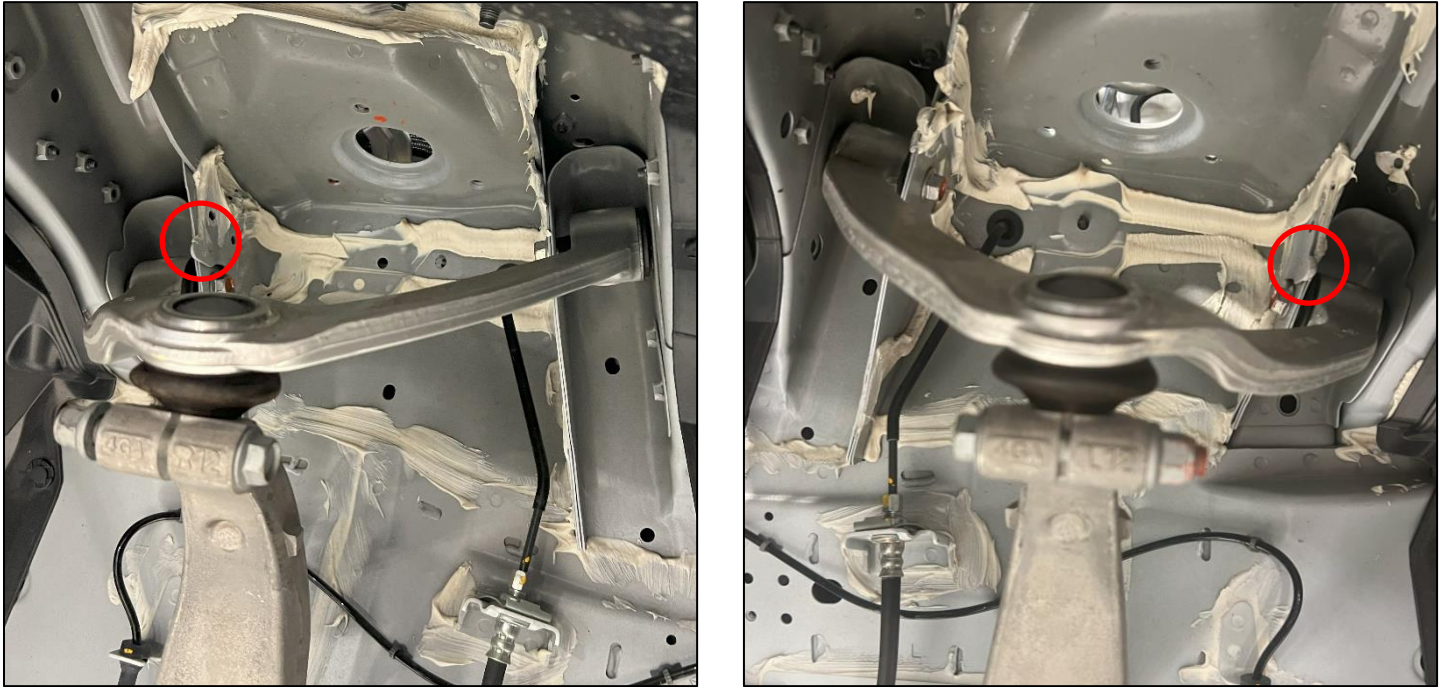

Figure 4
13. On some models, both sides of the vehicle have a small metal ridge on the chassis near where the frontward end mounts, that will need to be cleared to prevent interference. They are circled in the images below. Using Pliers or Vise-grips, grab the ridge and bend it away toward the rear of the vehicle. *Figure 4.*